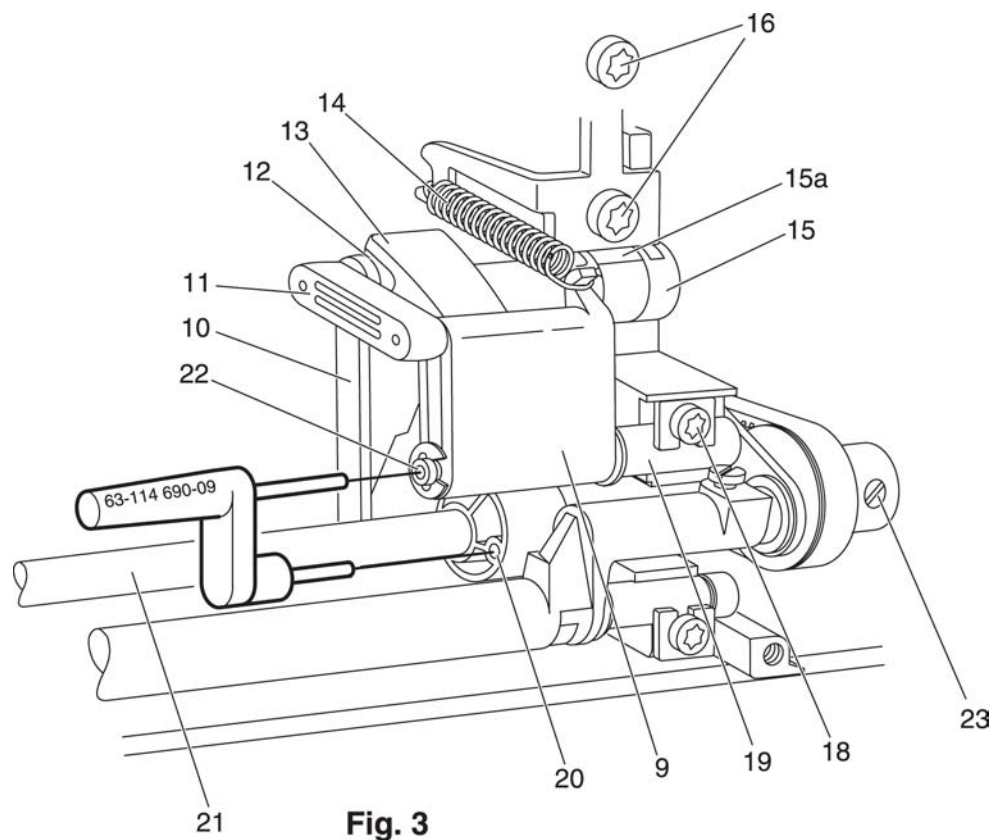

Fig. 3
When the needle bar has moved 2 mm up from its lowest position (b.d.c.), it must be possible to insert the two pins of pin gauge 63-114 690-09 simultaneously in the holes of the feeding eccentric and the bolt (fig. 3).
- Hold the handwheel in this position while inserting the pin gauge in the holes of feeding eccentric 20 and stud 22 (fig. 3).
- Turn the long drive shaft 21 in sewing direction until it is possible to insert the pin gauge in both holes (fig. 3).